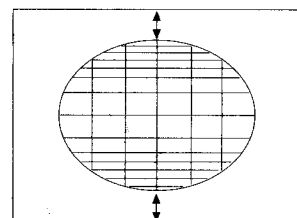

Fig. 9
- Adjust the S CORRECTION to obtain a balance between upper, lower and centre (fig. 9).